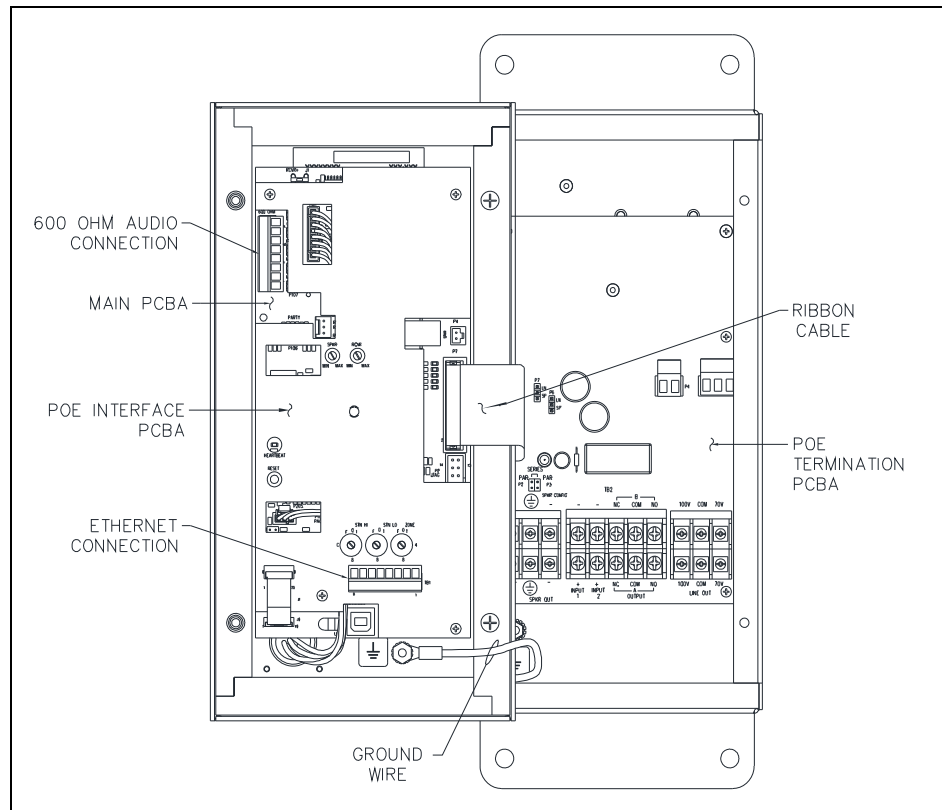

Figure 3. SP2 POE Station—Interior View
2. Secure it to the ground terminal located in the lower left corner at the back of the rear enclosure (see Figure 3).